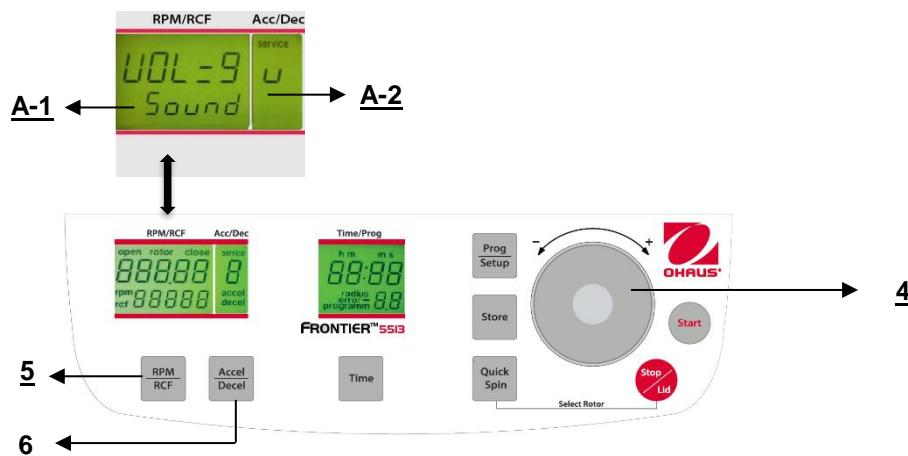

Figure. 31
Proceed as described under point 4.1.2 to enter this program mode and then press the key "Accel/Decel" (6). In the display "Acc/Dec" (A-2) the word "Service" flashes. Now select the letter "U" with the adjusting dial (4). As a result, in the display "RPM/RCF" (A-1) the words "Vol=0-9/Sound" appear. After pressing the key "RPM/RCF" (5), you can adjust the desired volume between 0 (low) and 9 (loud) with the adjusting dial (4) (See figure 31).